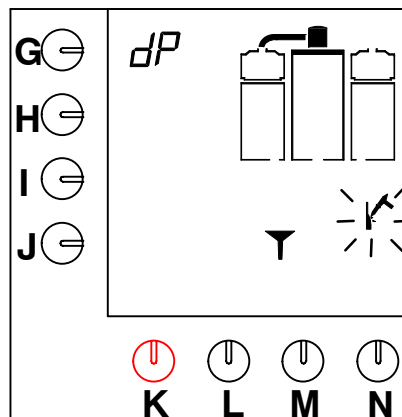

Fig. 19 Coffee-making system asks for descaling solution
- A signal sounds, the hammer symbol flashes and a funnel appears on the display (fig. 19).